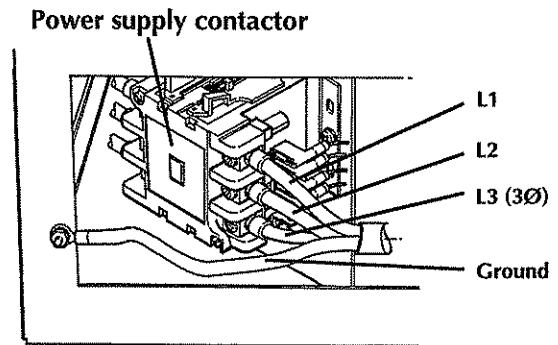

Figure 6 - Contactor Location with 3-Phase Cord Attached
- Slide the rear panel back over the power cord to gain access to the power supply contactor - Fig. 6.
14. Attach the power cord wires to the contactor and ground stud - Fig. 6.